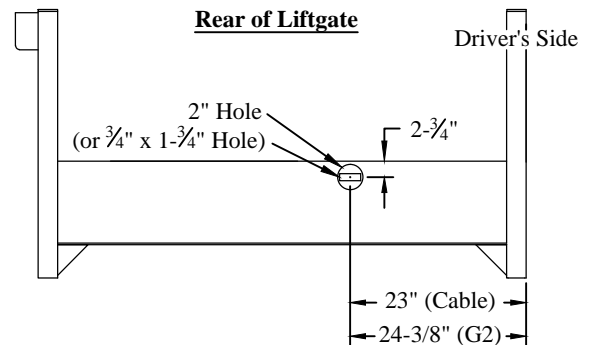

Figure 9: Spare tire access.
2. **Verify** spare tire access operation by inserting the spare tire crank rod through the access hole (Figure 9).